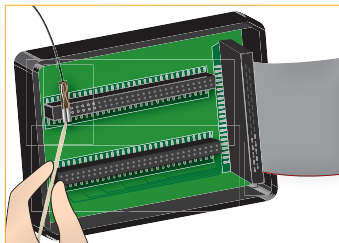

Figure 1
4. Carefully withdraw the faulty electrode. This is best done by taking a toothpick or screwdriver, for instance, and carefully removing the front part of the electrode from the splitter (see also Figure 1).